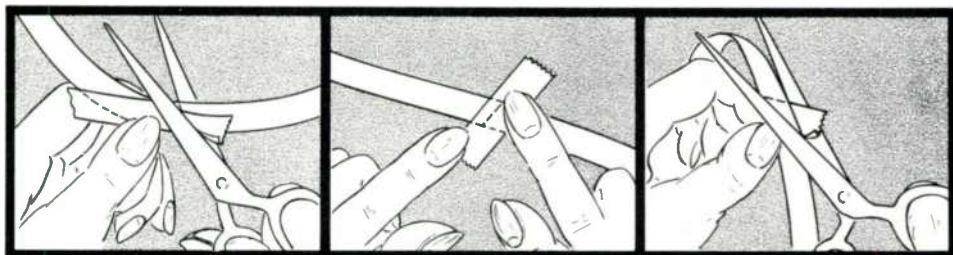

FIGURE 6
1. Overlap the two ends of tape about a half an inch, and cut them simultaneously using a diagonal cut on an angle of about 45 degree (see Figure 6).
3. Trim the rough edges of the splice, cutting slightly into the edges of the recording tape (see Figure 6). A splicing machine No. 57-9959 can be used to make professional splices easily.